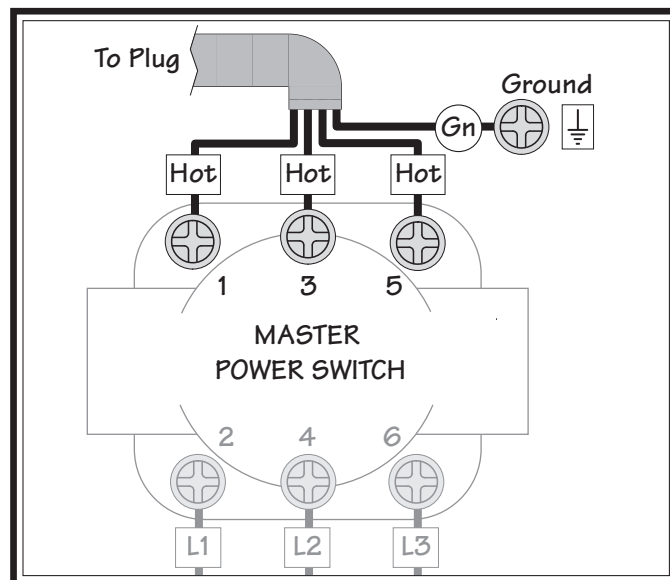

Figure 22. Power connection at master power switch.
3. Connect the incoming hot wires to the upper master power switch terminals, as illustrated in **Figure 22**.